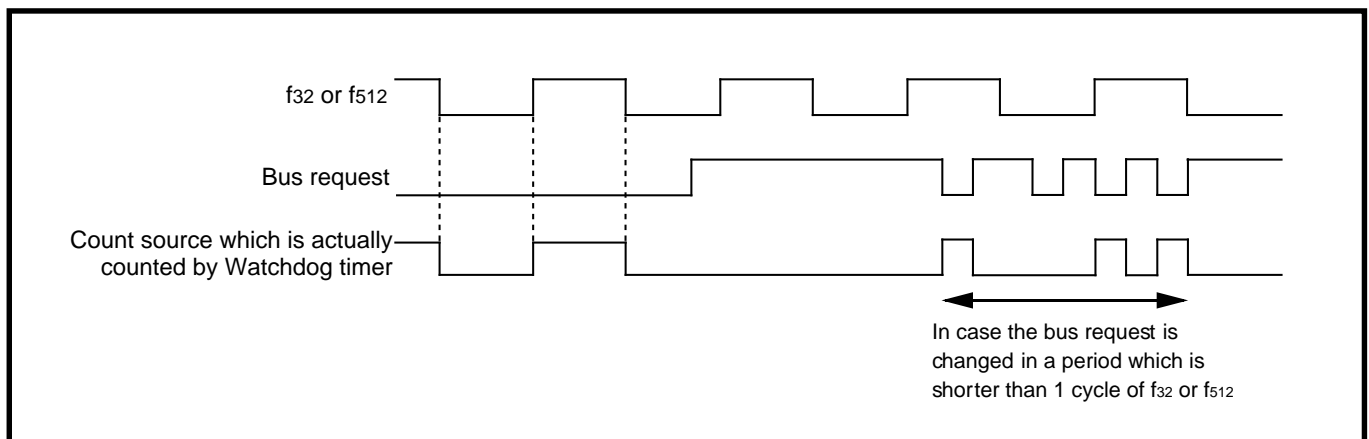

Fig. 15.3.1 Count source for Watchdog timer
3. Watchdog timer stops during DRAM refresh, hold state, and DMAC operation. (For Watchdog timer's structure, refer to “Figure 15.1.1.”) Accordingly, when a bus request is changed in the period which is shorter than 1 cycle of the count source (**Note**), Watchdog timer's count may gain. (Refer to “Figure 15.3.1.”)